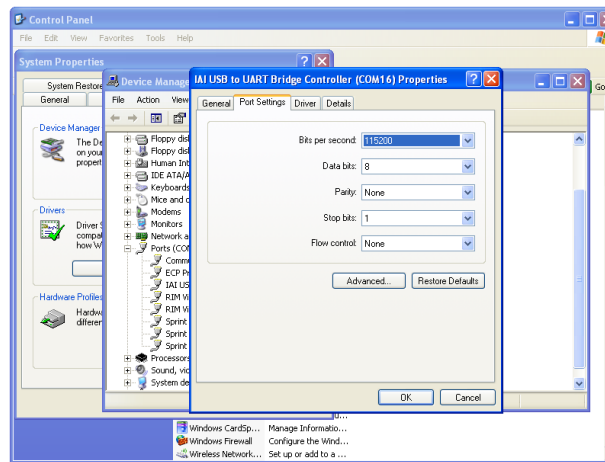

Fig. 1.49 Properties Dialog Box
- [5] The COM? Port Advanced Settings dialog box closes. Click **OK** in the Properties dialog box (Fig. 1.49), and the COM port will be changed.
- * This software judges whether the mode is online or offline depending on whether the controller and personal computer are connected or not. A controller equipped with a PORT switch does not operate in the online mode even if the port switch of the controller is turned ON after this software is started. In this case, the online mode is turned on by performing [Reconnect] (Refer to 3.1 (5) [2] [Setting of controller]).